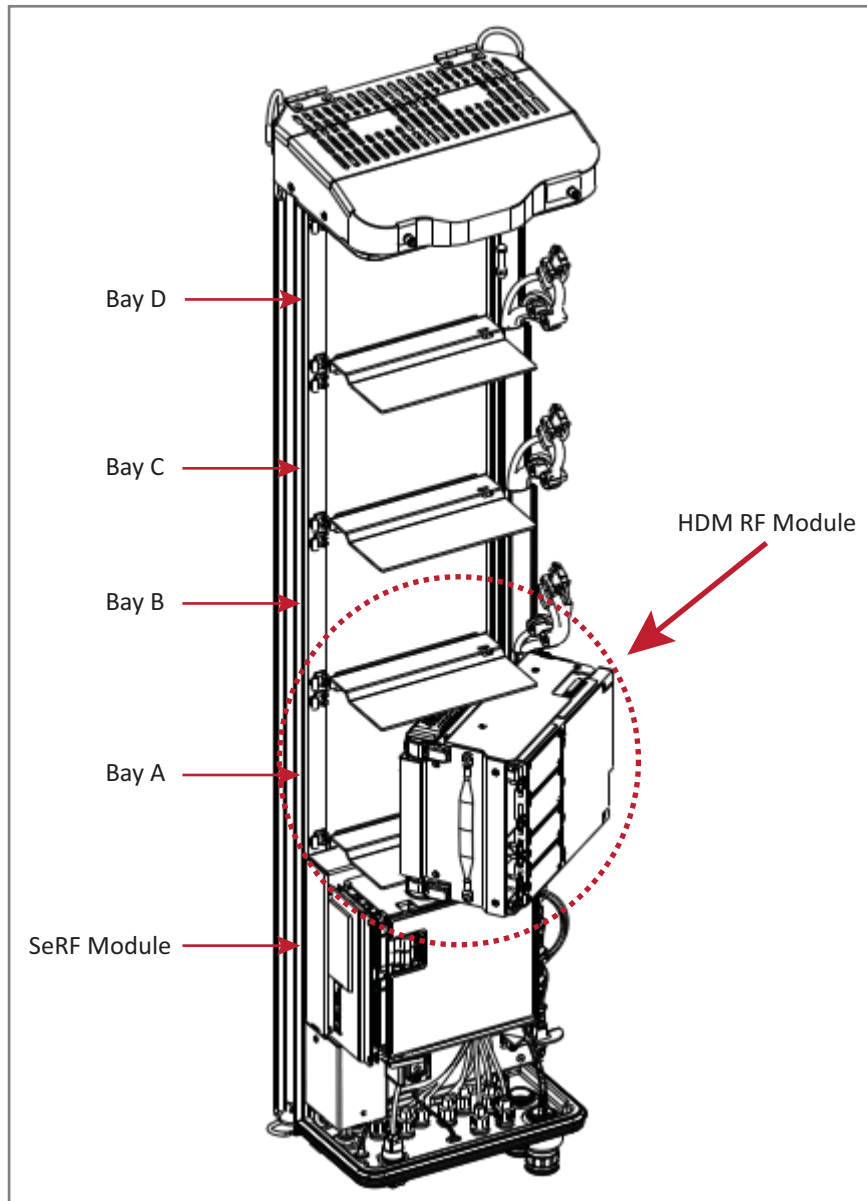

Figure 22. Installing an HDM RF Module
- HDM RF Module: Figure 22 on page 92